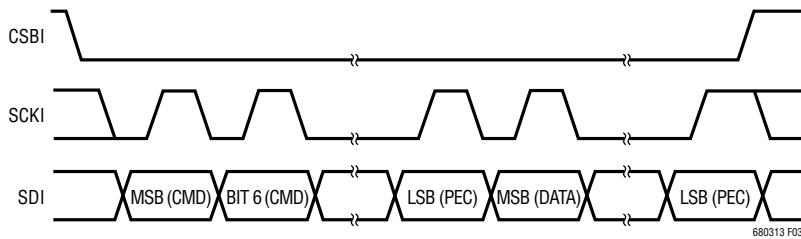
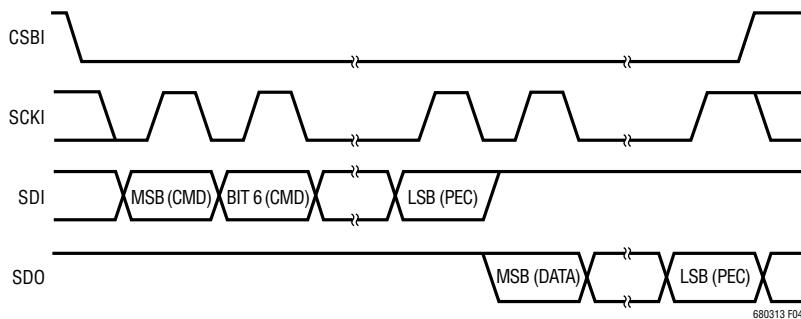

Figure 3. Transmission Format (Write)
Figure 4. Transmission Format (Read)
*Data Transfers:* Every byte consists of 8 bits. Bytes are transferred with the most significant bit (MSB) first. On a write, the data value on SDI is latched into the device on the rising edge of SCKI (Figure 3). Similarly, on a read, the data value output on SDO is valid during the rising edge of SCKI and transitions on the falling edge of SCKI (Figure 4).